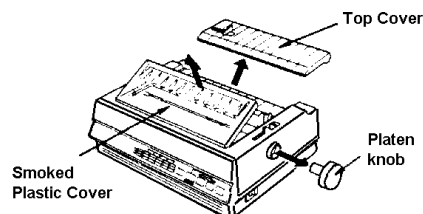

FIGURE 10 - COVERS
3.6.1 Remove the smoked plastic cover, top cover and the platen knob (Figure 10).